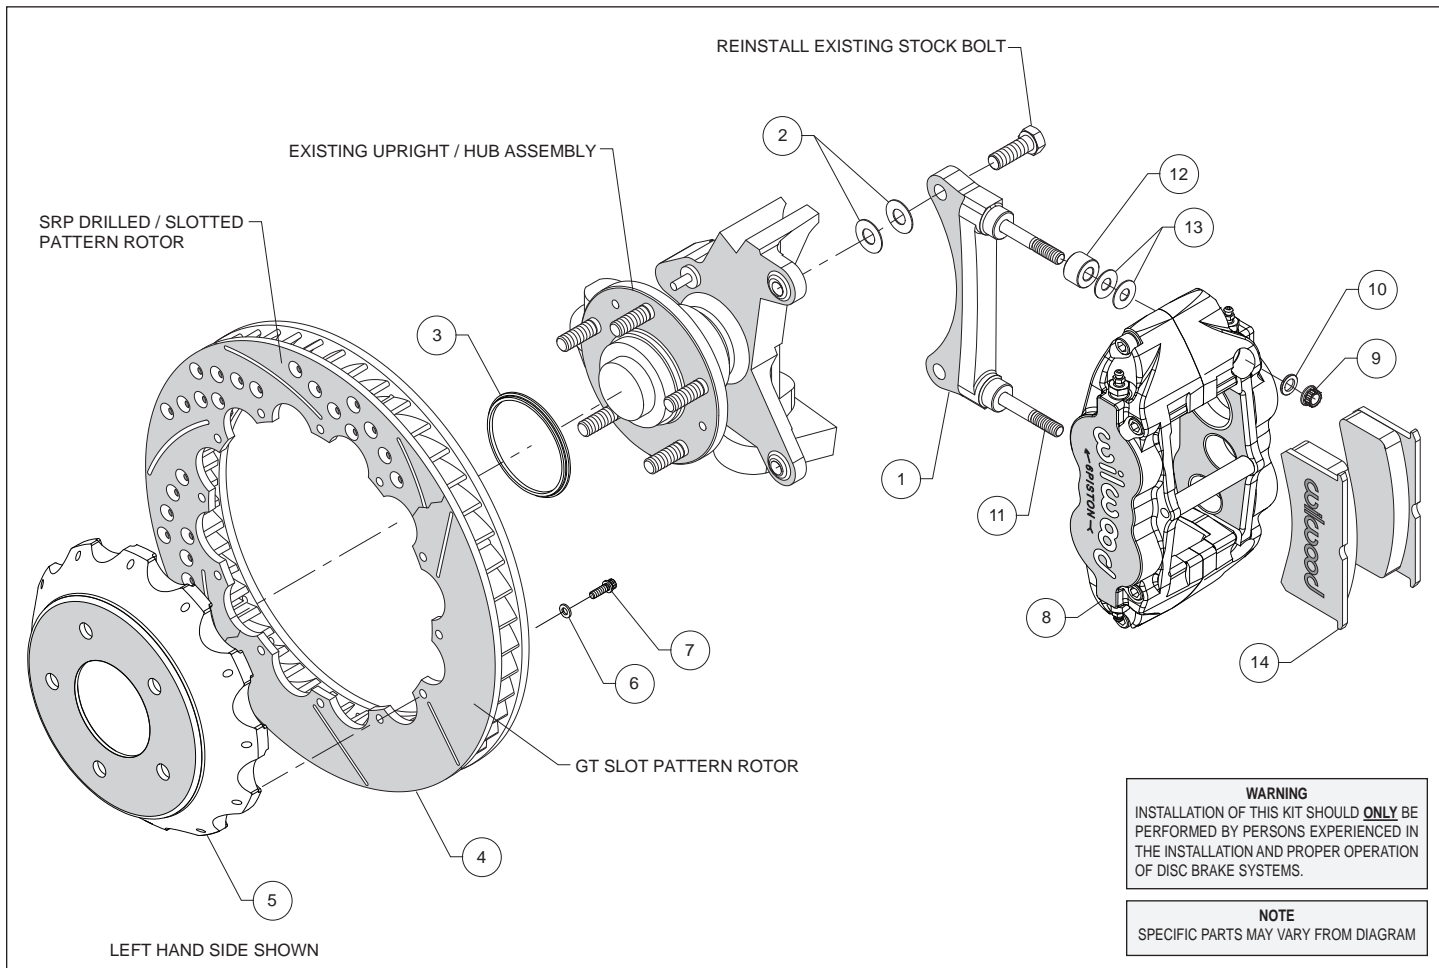
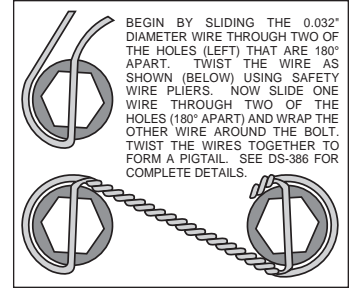

Figure 1. Typical Installation Configuration
Figure 3. Safety Wire Diagram
Assembly Instructions (numbers in parenthesis refer to the parts list and Figure 1 on the preceding pages):
- The caliper mount bracket (1) should initially be installed with clean, dry threads on the mounting bolts. Orient the bracket as shown in Figure 1, and install using saved Original Equipment Manufacturers (OEM) mounting bolts and shim washers (2). Initially place two shims (2) on each bolt between the bracket and upright, Figure 1. Temporarily tighten the mounting bolts. **NOTE:** The bracket must fit squarely against the mount bosses on the upright. Inspect for interference from casting irregularities, machining ridges, burrs, etc. Later, after the caliper alignment has been checked, the mount bolts will be secured using red *Loctite*® 271.
- Orient the rotor (4) and the hat (5) as shown in Figure 1 and Photo 1. Attach rotor to hat using bolts (7) and washers (6). Using an alternating sequence, apply red *Loctite*® 271 to the threads and torque bolts to 155 in-lb. For an added measure of security, the bolts may be safety wired using standard 0.032 inch diameter stainless steel safety wire as shown in Figure 3.
- Slide the rotor registration adapter (3) onto the axle register on the axle hub with the smaller O.D. facing outward, Photo 2. Slide the hat/rotor assembly onto the axle hub. **NOTE:** The hat must fit flush against the axle hub flange or excessive rotor run out may result. Install three lug nuts (finger tight) to keep the hat/rotor assembly in place while continuing with the installation.
- NOTE:** This kit contains distinct right and left hand calipers that must be mounted in a specific direction, as described below. Lubricate the caliper mounting studs (11) with lightweight oil. Initially place two .035" thick shims (13) and spacer (12) on each stud as shown in Figure 1 and Photo 3. With the bleed screws pointing up, mount the caliper (8) onto the bracket (1) using lock nuts (9) and washers (10), Figure 1 and Photo 4. Ensure that the caliper is mounted so that the largest pistons are at the rotor exit end of the caliper, in relation to the direction of rotor rotation. Temporarily tighten the lock nuts and view the rotor through the top opening of the caliper. The rotor should be centered in the caliper, Photo 5. If not, adjust by adding or subtracting shims (2) between the bracket and the upright. Always use the same amount of shims on each of the two mounting bolts. Once the caliper alignment is correct, remove the bracket mounting bolts one at a time, apply red *Loctite*® 271 to the threads, and torque to manufacturer's specifications.